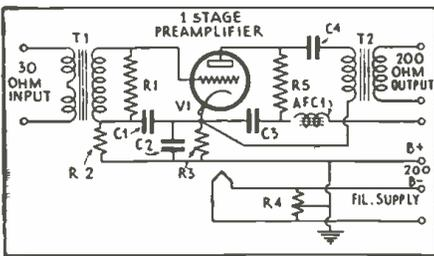

Fig. 2
- One search-coil (made as shown in Fig. 2);